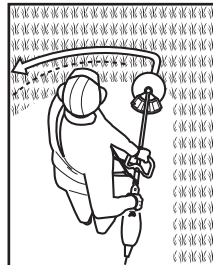

Fig. 24
3. Pay special attention when performing the work close to trees and bushes. The cutting head could damage sensitive bark, and damage fence posts (Fig. 24).